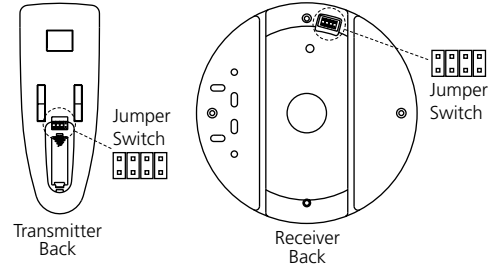

Figure 1 - Jumper Switches
2. IMPORTANT! Before installing this control, change the factory default jumper switch settings to your own unique code. Refer to Figure 1. Using small pliers or tweezers, pull out one or more of the three jumper switches by clamping on the small metal strip. Place the jumper switches in the desired spots. Be sure the jumper switch positions of